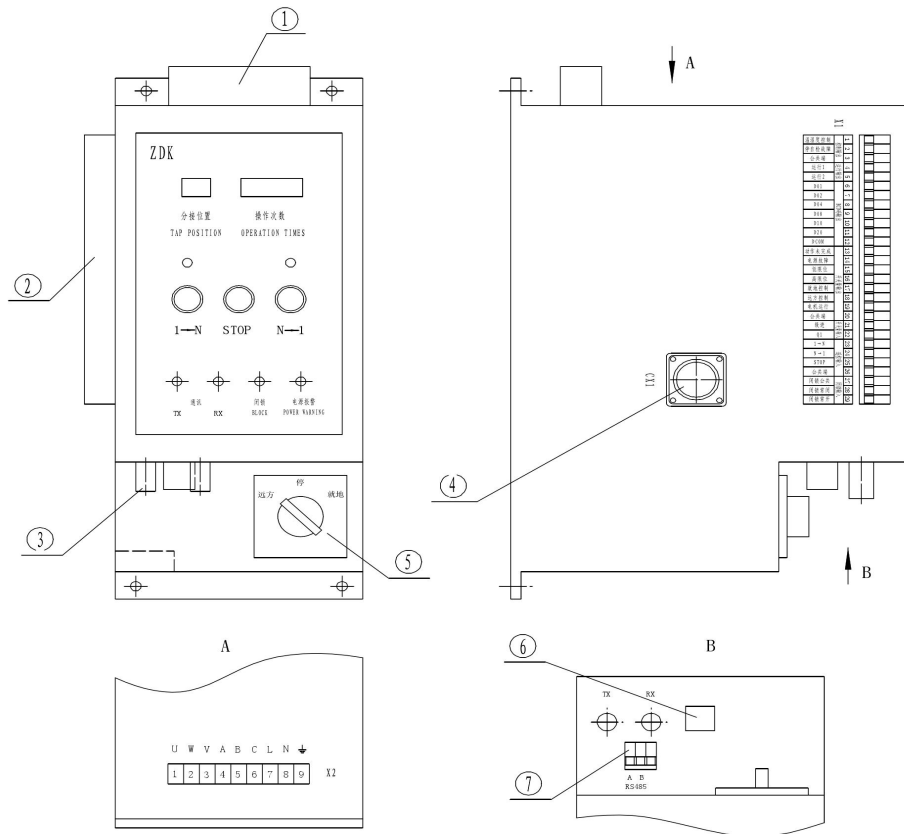

Figure 2
3.3.1 ZDK Controller (Figure 2)